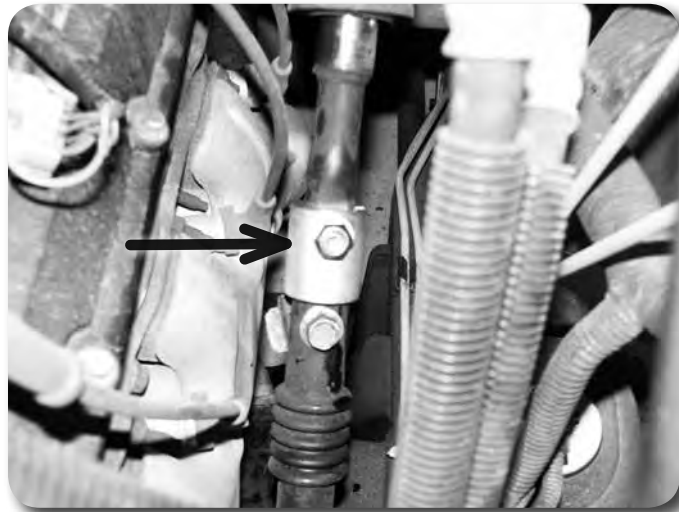

Figure 17
42. Install the provided steering extension into the lower steering shaft and fasten with the factory hardware Figure 17. Leave hardware loose.